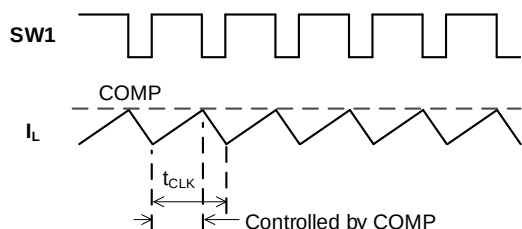

Figure 3: Buck Waveform
The high-side MOSFET (HS-FET) works with the peak current mode control logic, and the low-side MOSFET (LS-FET) turns on as a complement to the HS-FET. In each cycle, the HS-FET turns on to charge the inductor current (I_L). The current-sense output voltage (V_{IL}) is proportional to I_L . When V_{IL} reaches V_{COMP} , the HS-FET turns off and the LS-FET turns on. The LS-FET stays on until the next clock comes, then the HS-FET turns on and the process repeats. The COMP signal is the output of the internal error amplifier (EA). Figure 3 shows the buck converter's operation waveform.